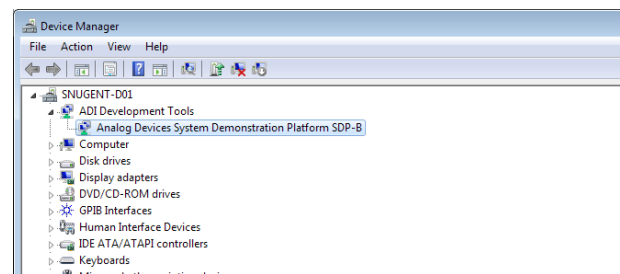

Figure 12. Device Manager
- b. Under **ADI Development Tools**, **Analog Devices System Development Platform SDP-B** appears (see Figure 12), indicating that the EVAL-SDP-CB1Z driver software is installed and that the board is connected to the PC correctly.